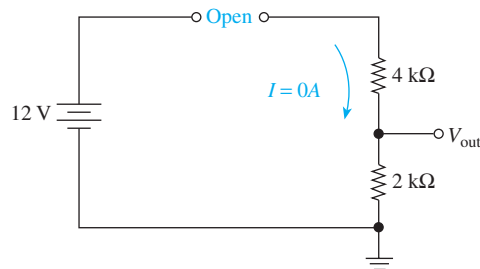

Figure F-7 An open circuit causes current to stop flowing.
An *open circuit* is a break in a circuit. This can be done purposely by an electronic switching component, or it could be a circuit fault caused by a bad connector or burnt-out component. This break will cause the current to stop flowing to all components fed from that point. Calculate V_{out} in Figure F-7.
- F-9.** In Figure F-7, the voltage across the $2\text{-k}\Omega$ resistor is the same as that across the $4\text{-k}\Omega$ resistor. True or false?